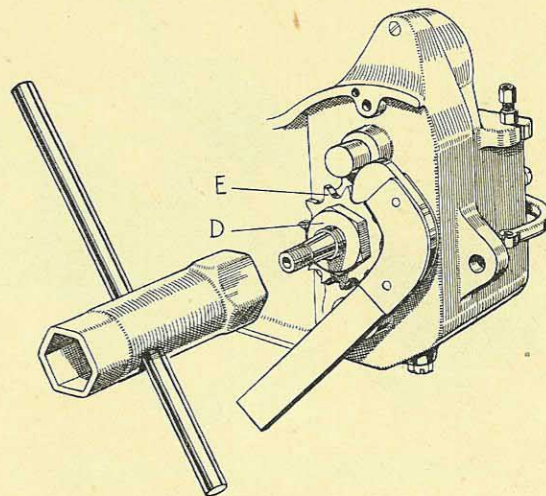

FIG. 55.—REMOVAL AND REPLACEMENT OF HIGH-GEAR PINION.
To remove the high-gear pinion the hexagon nut (D, Fig. 55) against the driving-sprocket (E) must be removed by turning anti-clockwise, using a tool (Fig. 55) to prevent the sprocket turning. The pinion can now be pushed through the ball bearing. A felt washer and steel retaining ring are fitted behind the bearing, and if oil is working out round the sprocket boss the felt washer should be renewed. In the latest models a felt washer is not fitted, the oil being prevented from escaping by a spiral groove cut in the boss of sprocket.
(3 and 4, Fig. 48) originally fitted, screw on hexagon nut and tighten, using the tool (Fig. 55) placed on opposite side of the sprocket to prevent rotation.